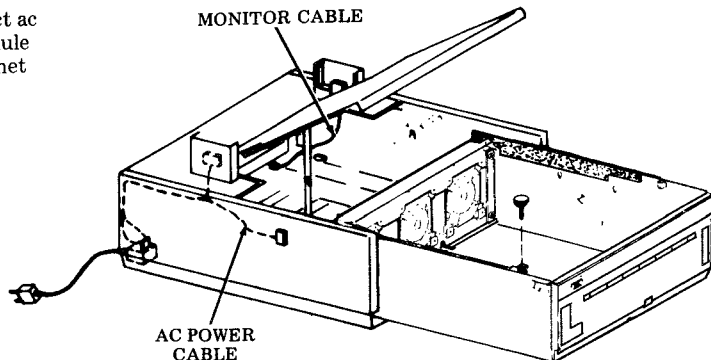

Fig. 23
Step 5 — Reach in and disconnect ac power cable. Slide module completely out of cabinet (Fig. 23).